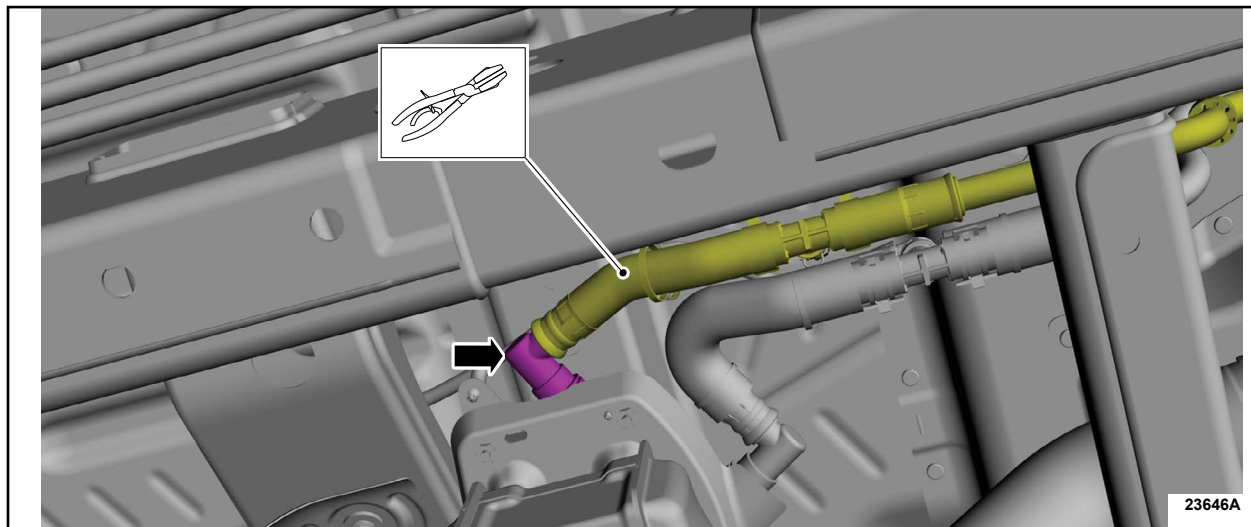

FIGURE 1
1. Clamp off the heat exchanger coolant spigots. See Figure 1.